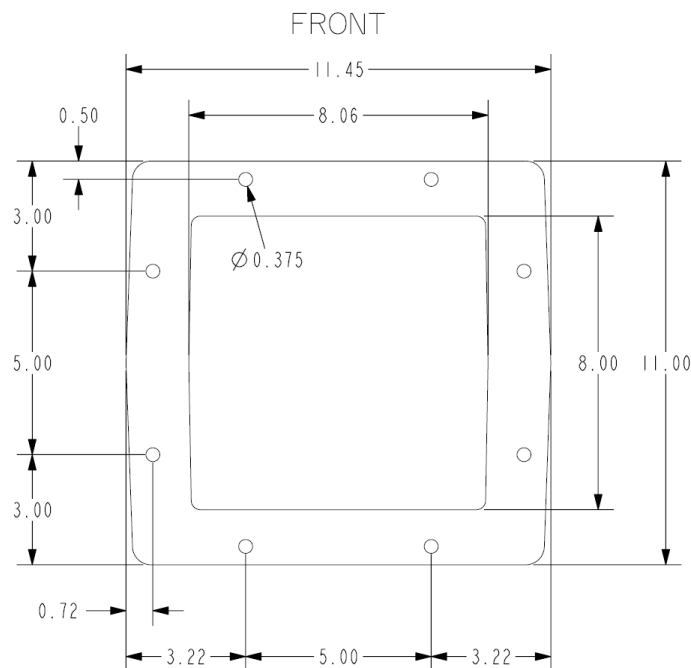
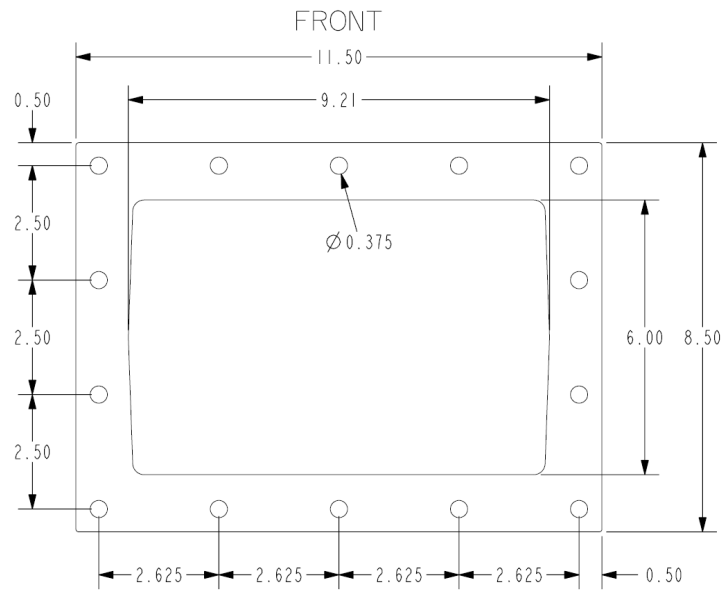

Figure 5-1: 3" model dimensions
Figure 5-2: 5" model dimensions
4. Create an opening in the storage structure to allow for the mounting of the DDC. Reference **Figure 5-1** and **Figure 5-2** for the reference dimensions of the DDC mounting surface. All dimensions shown are in inches.